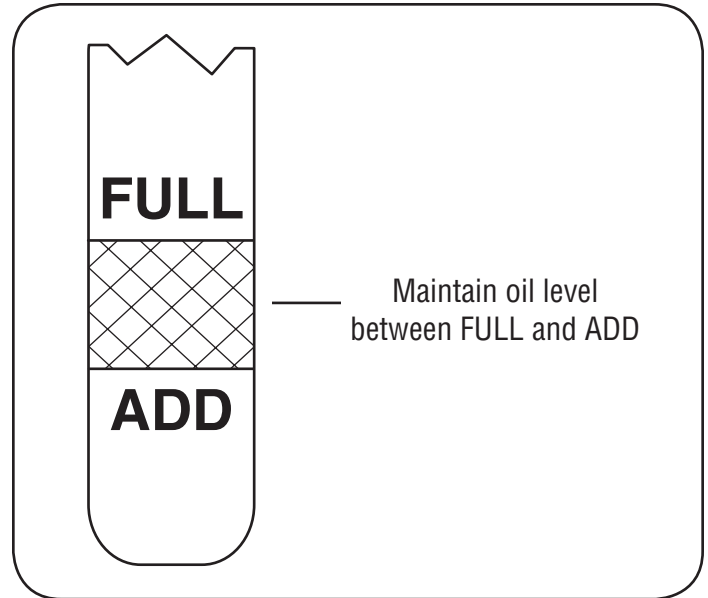

Figure 13
4. Unscrew and remove oil fill cap from oil filler tube. Note oil level. If oil reading on dipstick is below "ADD" mark, slowly add oil to reach "FULL" level. See Figure 13.